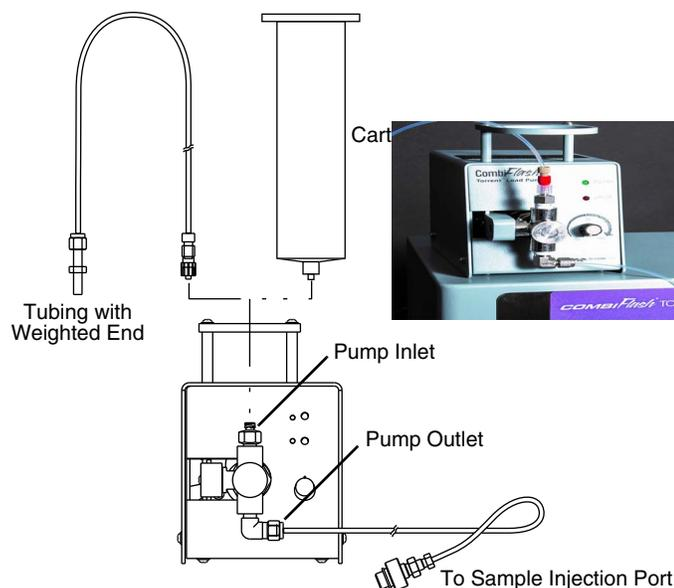

Figure 2-3 Sample load pump
3. Configure the Sample Load Pump by placing either the plastic cartridge reservoir or the tubing with the weighted end on the pump inlet (Figure 2-3).